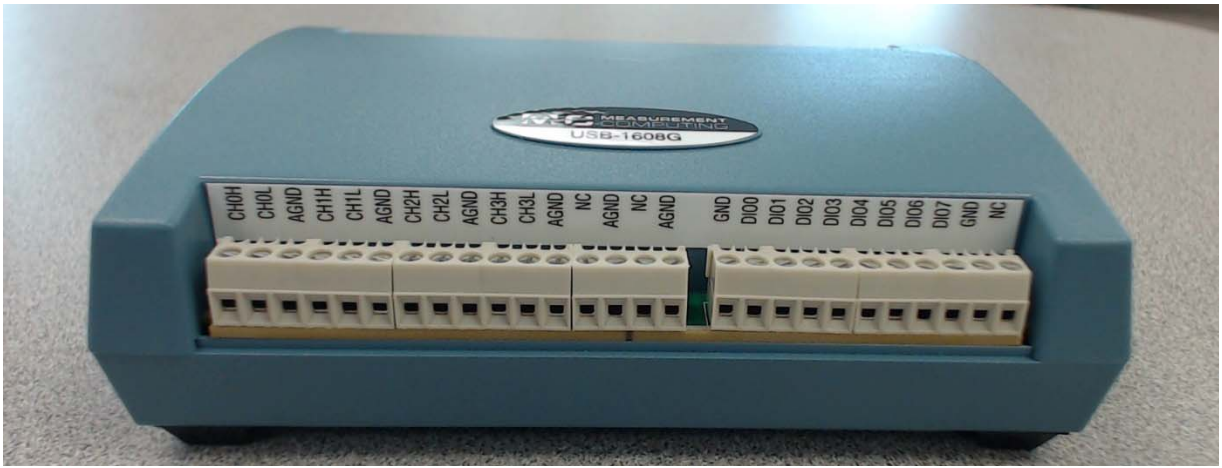

Figure 1: Connections on USB-1608G
- Physical connections to the board are made to the pins labeled with the channel number (abbreviated CH) and H for high or L for low. For example, channel 0 connections are made on CH0H and CH0L as shown on the left side of figure 1. The DAQ will measure the voltage of the high pin relative to the voltage of the low pin. Typically, high will be connected to your signal and low will be connected to ground.